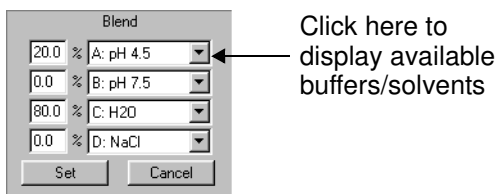

Figure 5-6 Blend Section of Control Panel
1. Click the down arrow to the right of a buffer/solvent channel in the Blend section of the Control Panel (Figure 5-6).